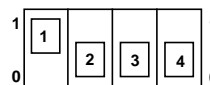

Figure 2. SW2 Default Settings
**SW2-1:** This switch when positioned as in Figure 2, sets the MODE pin of the AD7716 to a "high". This sets up the device for the Slave Mode Interface, which is the interface mode employed when connected to the PC. In this mode, the AD7716 is the slave in the system and the processor is the master.
**SW2-2,3,4:** These three switches, when positioned as in Figure 2, set the device address pins A0, A1, A2 of the AD7716 to "000", respectively. This information is contained in the data stream going back to the processor. In a multi-device system, it is possible to have eight discrete addresses for eight AD7716, thus making a 32-channel data acquisition system. Please consult the AD7716 data sheet for further details.